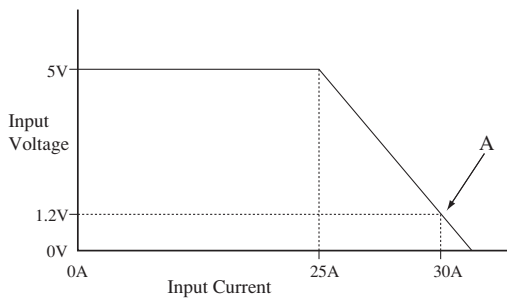

Figure 3.5-13
① When in the load-on state, press the **[SHIFT] + [SW] (SHORT)** keys to enable the Short mode.
- Data [30.00A] at the left hand end on the top row indicates that the current limit of the regulated DC power supply is at point "A" (30.00 A) on the droop curve shown in Figure 3.5-13. Data [1.20V] also indicates a value under the similar conditions. In this case the I SET value is at 30.00 A.